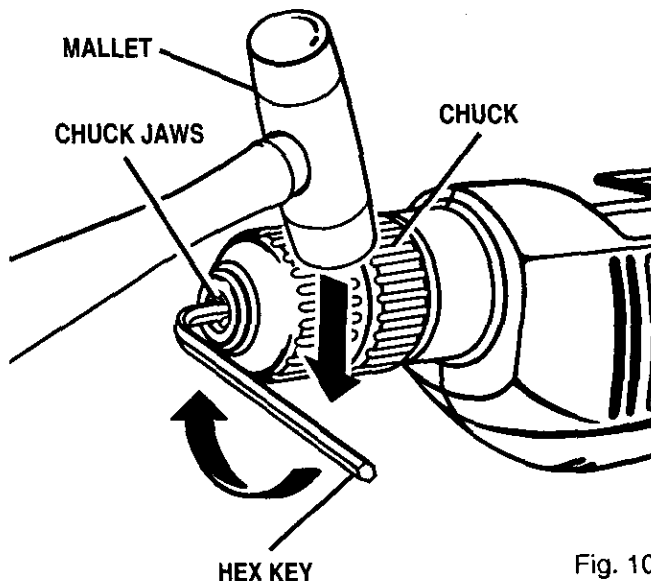

Fig. 10
See Figures 10, 11, and 12.
- Tap the hex key wrench sharply with a mallet in a clockwise direction. See Figure 10. This will loosen the screw in the chuck for easy removal.